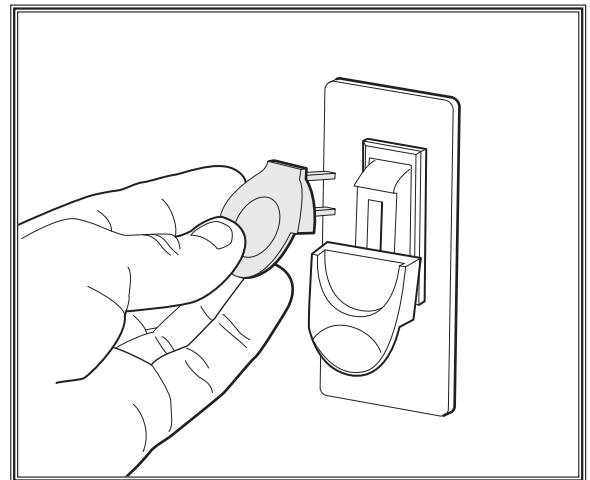

Figure 19. Inserting removable key into ON/OFF paddle switch.
3. Insert removable key into paddle switch (see **Figure 19**) and connect machine to power supply.